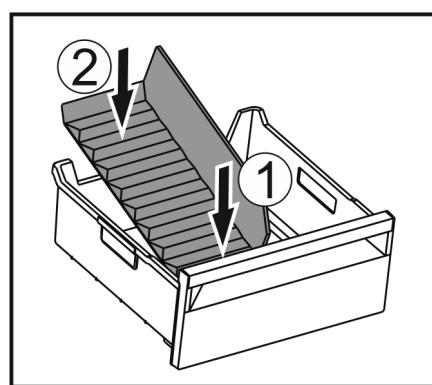

Fig. 167
▶ 装入冰格分隔器前部。Fig. 167 (1)
▶ 将冰格分隔器后部放低至抽屉底板。Fig. 167 (2)